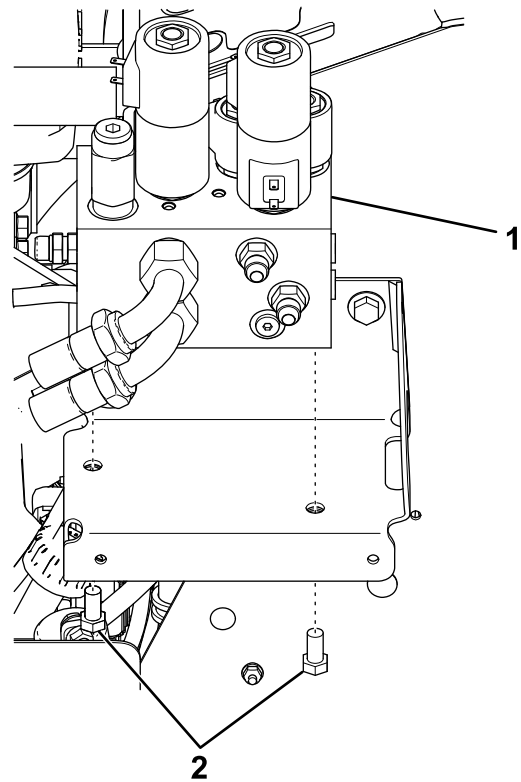

Figure 7
- Mount the hydraulic manifold assembly to the mounting bracket using 2 bolts (3/8 x 3/4 inch) as shown in Figure 7.